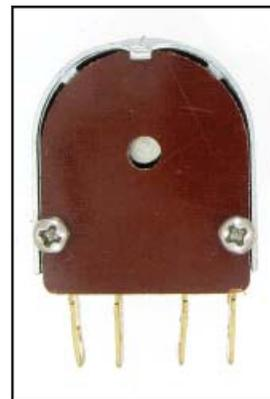
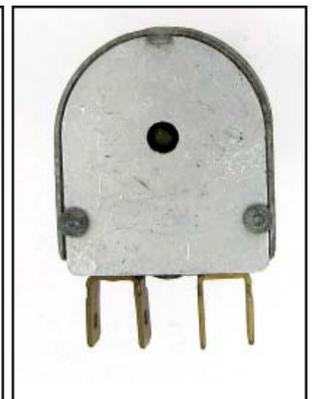

Fig. 2. New rheostat
Fig. 3. NOS rheostat
- The back was of a fiber-board style material retained with screws (Figure 2), rather than a metal back retained with rivets (Figure 3).